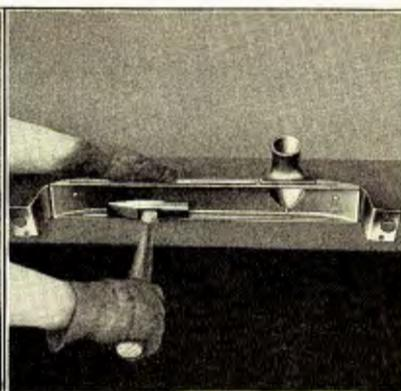

Fig. 407
- 817** In replacing the lower tank, care should be taken that it fits the header as closely as possible. Stand the radiator bottom side up on bench hangers, flare the edges on the header out a little and spread the tank to fit. Examine edges of tank to make sure they are perfectly even. Any indentations can be removed by tapping the edges with the flat side of a hammer (See Fig. 407). Clean